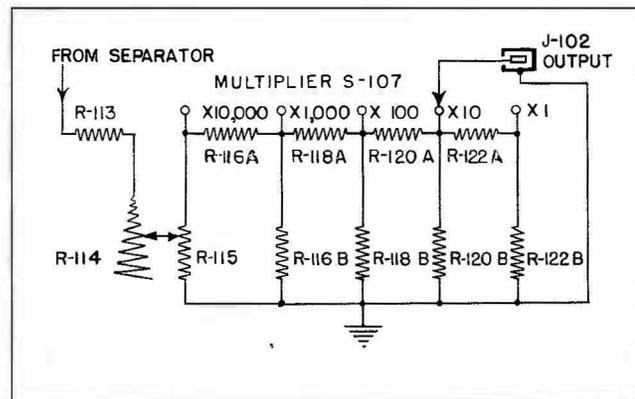

Figure 4-5—Schematic Diagram of the Attenuator
a. The Attenuator circuit serves to control the amplitude of the carrier voltage as applied to the Lower Output Jack (J-102) so that a definite and continuously variable voltage is obtainable at this point. The entire circuit is resistive throughout and is so designed that the attenuation introduced is substantially independent of frequency within the limits of the equipment. While the Attenuator circuit is strictly a ratio operating device, the two panel controls are calibrated directly in terms of microvolts at the Lower Output Jack (J-102) with an Attenuator input of one volt as indicated by the vacuum-tube voltmeter heretofore described. The Attenuator circuit is shown schematically in Figure 4-5.